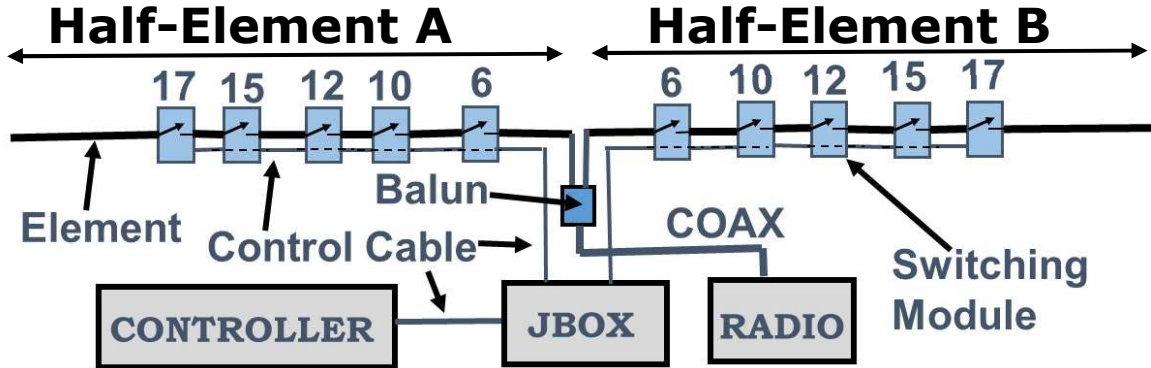

FIGURE 1
- The Dipole Antenna System (**FIG. 1**) consists of two half-elements (A and B), having central RF inputs which are connected to a BALUN as shown. There are multiple methods to achieve the BALUN function (See page 48-49.). An RF coaxial cable is connected from the BALUN to a radio. Each half-element consists of 6 element segments, each of which can be switched together (or not) by 5 switching modules. All switching modules are coupled and controlled by UV resistive CAT control cables, which terminate on a central Junction Box (JBOX) (See page 35-37.). A 22-gauge 8 wire shielded UV resistive controller cable connects the XOR Band Controller (page 54) to the JBOX. The controller's source voltage is typically a +12 Vdc supply. The controller's BAND selection activates the appropriate switching modules, to achieve the desired half-wavelength and the resulting operating BAND.